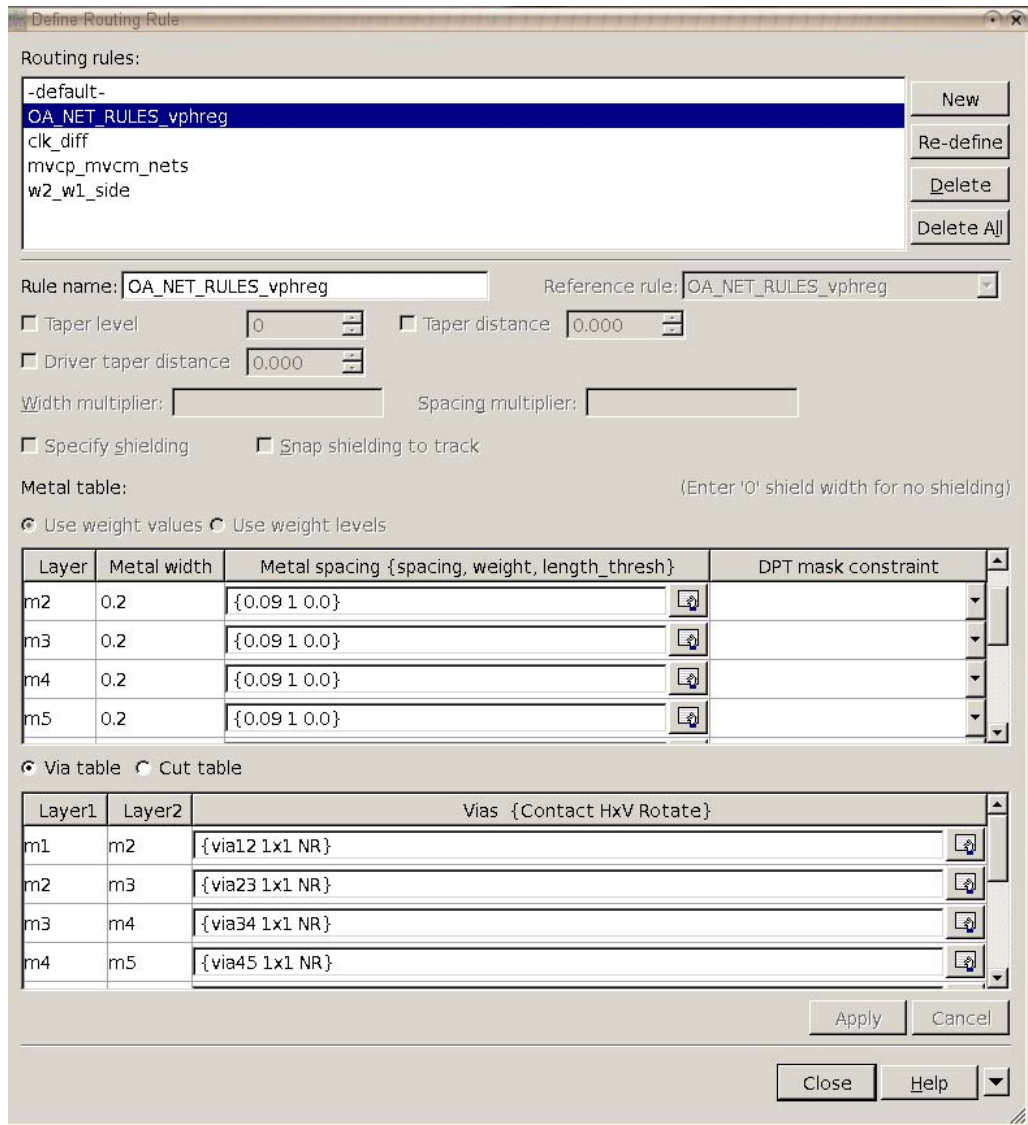

Figure 16 Define Routing Rule Window
- Click on the **OA\_NET\_RULES\_vphreg** rule and review the values. See Figure 16.